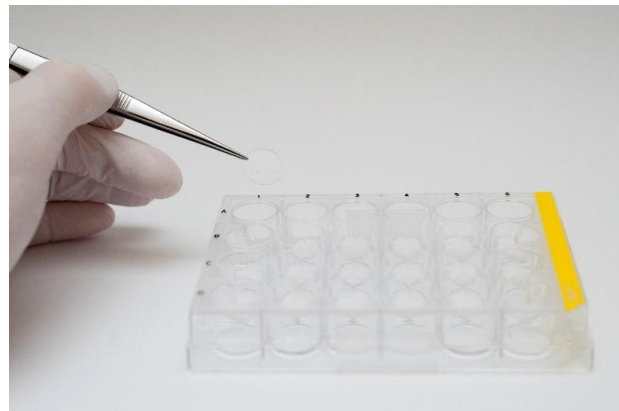
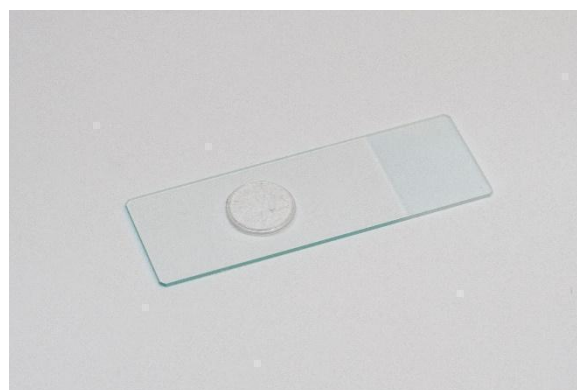

Figure 1. Gelacell™ scaffolds incorporated in the well plate.
Figure 10. Fix the Gelacell™ discs using mounting media for imaging.
Gelacell™ is a unique, 3D microfibrinous scaffold specifically engineered for advanced in vitro 3D cell culture and tissue engineering applications. Designed as a non-woven, highly porous scaffold, Gelacell™ offers exceptional biocompatibility and non-toxicity across a variety of cell types. Our specially integrated circular scaffolds in a well plate format (as shown in Figure 1) offer a straightforward visual imaging of cells directly from the well plate.
4. **Handling:** Employ fine-point tweezers, either straight or angled, to grip the discs (refer to Figure 1). Position the discs facing the scaffolds on a glass slide that contains one or two drops of mounting media. This step is crucial to secure the discs in place. (Figure 10).